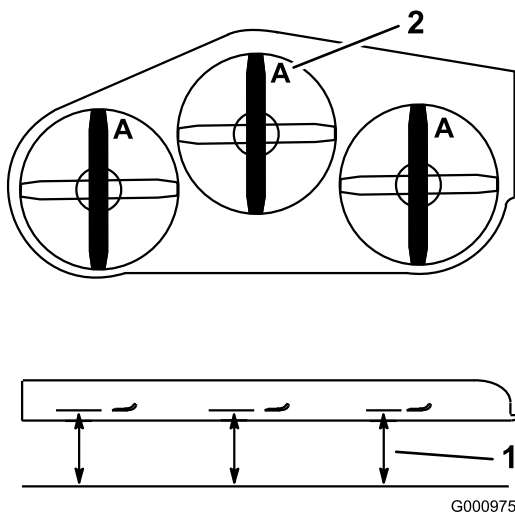

Figure 97
4. Measure at **A**, and from a level surface to the cutting edge of the blade tips (Figure 97).